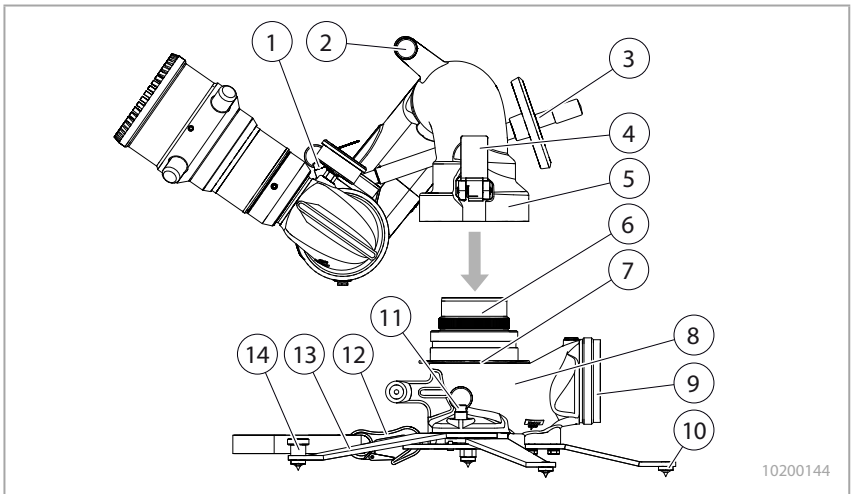

Fig. 8 Handling the portable monitor
1. Fold out the ground base legs (Fig. 8/13) of the ground base using the leg extension/retraction handle (Fig. 8/14) until the leg position retaining pin (Fig. 8/11) engages in the locking position.
2. Hook the ground strap with the snap hook (Fig. 8/12) into the eyelet and secure to an immovable object or ground spike on the other side.
4. Release the rotation lock (Fig. 8/4) upwards.
5. Place the quick-fitting system of the monitor (Fig. 8/5) on the lower part of the quick-fitting system on the ground base (Fig. 8/6). The release ring (Fig. 8/7) must not engage and the monitor must be free to rotate.
7. Check whether the elevation minimum angle override (Fig. 8/1) is fixed in place to restrict the elevation angle.
8. Check whether the ground base is positioned securely on all ground spikes (Fig. 8/10).
10. Secure the tube to the inlet of the ground base (Fig. 8/9). There should be at least one meter of hose right behind the ground base.
- Rotating movements (horizontal) with the carrying handle (Fig. 8/2)
- Height adjustment (vertical) with the handwheel (Fig. 8/3)
2. Activate the rotary damper by pressing down the rotation lock (Fig. 8/4).